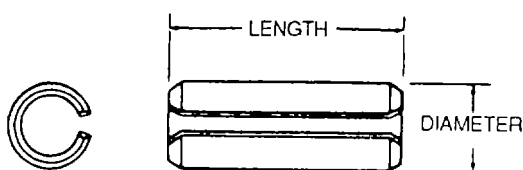

Figure 2-50. Spring Pin
d. Spring Pins. The spring pin, as shown in figure 2-50, is a slotted or coiled and chamfered pin, heat-treated to achieve optimum toughness, resilience, and shear strength. Spring pins are stronger than mild carbon steel straight pins, taper pins, or grooved pins of equivalent sizes.